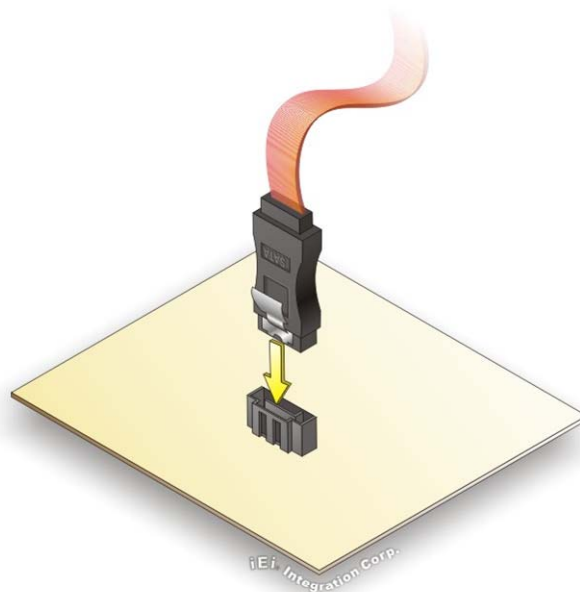

Figure 4-12: SATA Drive Cable Connection
Step 2: Insert the cable connector. Insert the cable connector into the on-board SATA drive connector until it clips into place. See Figure 4-12.